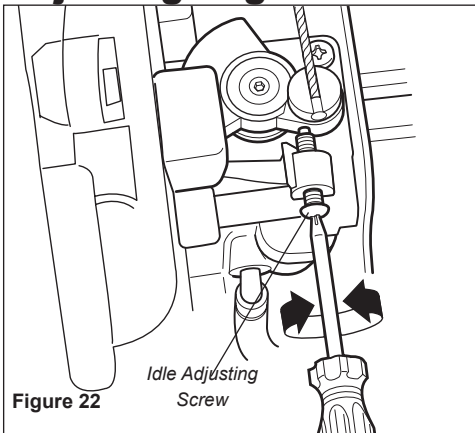

Figure 22
2. If the attachment rotates when the engine is at idle, reduce the idle speed by turning the idle adjustment screw counter-clockwise. See Figure 22.